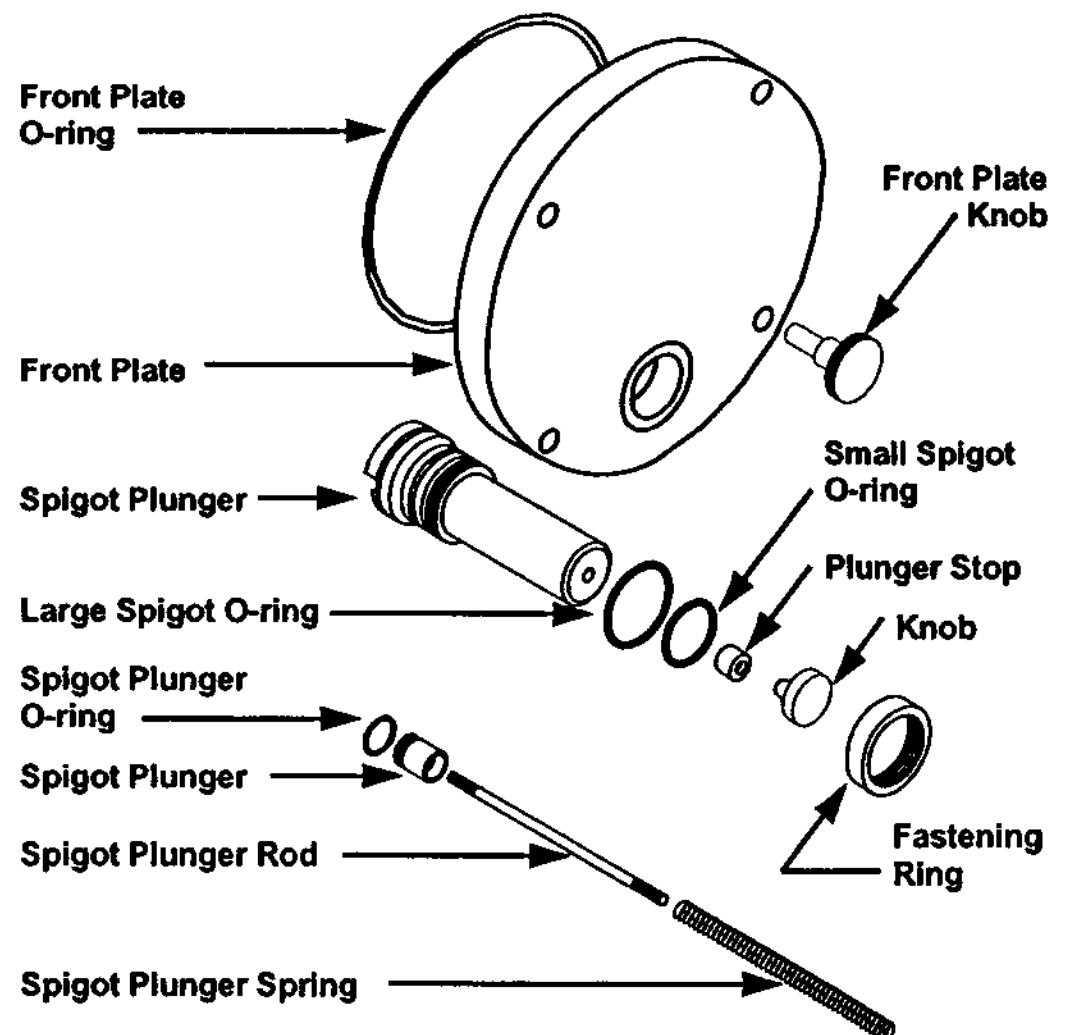

Fig. 34
- b. Place the o-ring on the spigot plunger, then smooth food grade lubricant into the grooves and around the o-ring (Fig. 34).